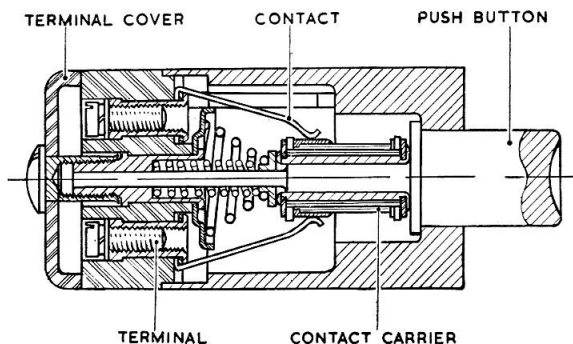

Fig. 1. Switch details
2. The switch (*fig. 1*) is housed within a light alloy barrel. The push button projects from one end of the housing and to the other end is fitted a moulded terminal block which has four terminals each with a spring contact. The four contacts, set mutually at right angles, all bear on a contact drum which is operated by the push button. The contact drum is mounted on a plunger which has a projecting spindle sliding in a brass guide ferrule in the terminal moulding. A conical and a helical spring are both positioned concentric with the plunger spindle to provide the spring return to the normal "out" position; the conical spring, bearing on a thrust plate attached to the terminal moulding and the helical spring bearing in a recess in the brass ferrule. The terminals are enclosed by a moulded cover which is secured by a captive screw.